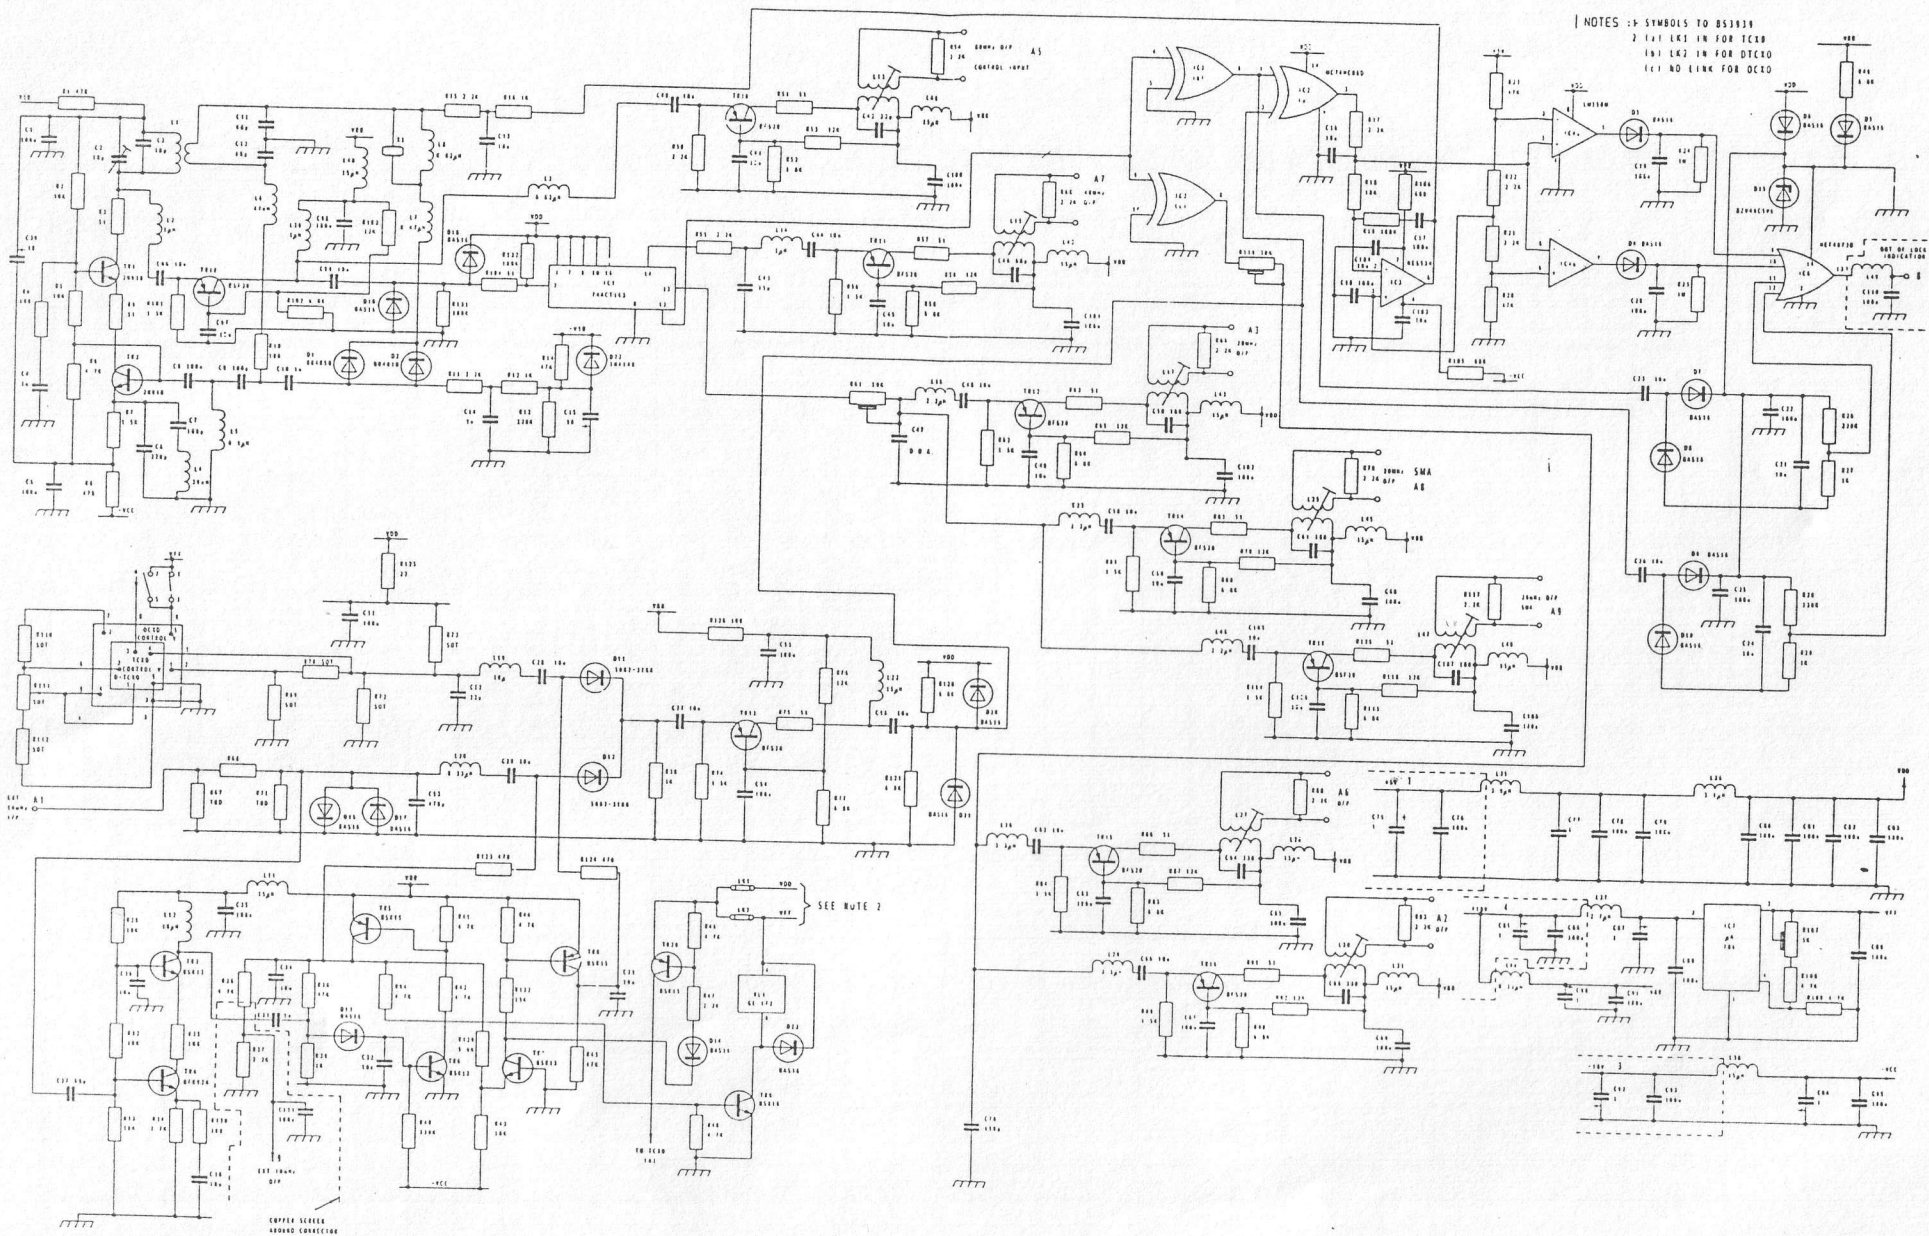

Figure 4 - Reference Module Circuit Diagram
- Figure 4 Pulse Density Modulator Block Diagram